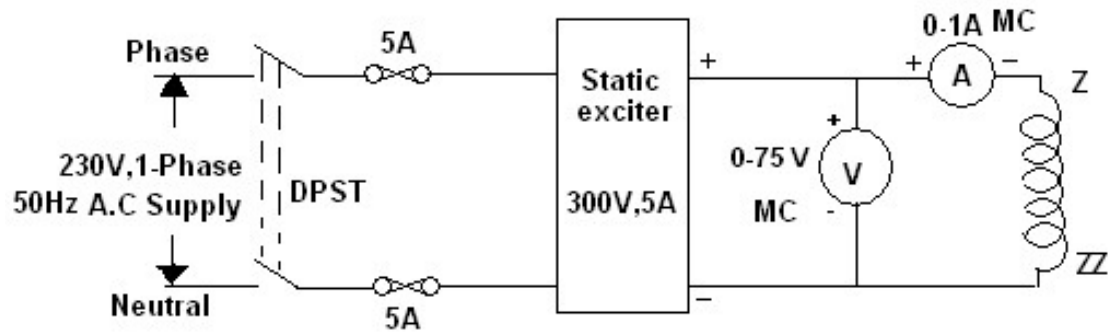

Fig 1.2
10. Make the connections as per the circuit diagram (Fig.1.2).